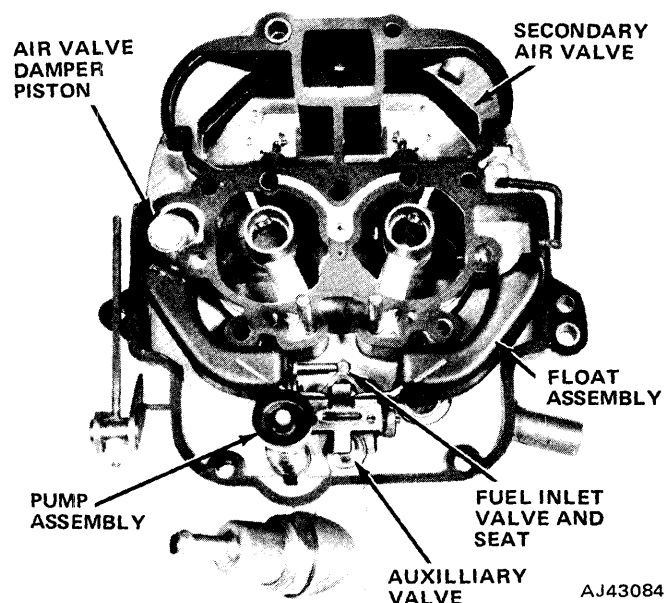

Fig. 4-124 Air Horn—Bottom View
- (6) Lift air horn off main body.
- (7) Float pivot pin and remove float assembly.
- (8) Remove auxiliary fuel inlet valve with Tool J-10185 and fuel inlet needle seat with a 1/2-12 point socket (fig. 4-124).
- (9) Remove secondary air valve damper link pivot pin and remove rod from link.
- (10) Remove air valve damper piston, rod, and spring.
- (11) If it is necessary to remove secondary air valve plate or shaft, remove the air valve plate attaching screws. Remove plate, then slide shaft out of the air horn.
- (12) Remove attaching screws if it is necessary to remove choke plate or choke shaft.